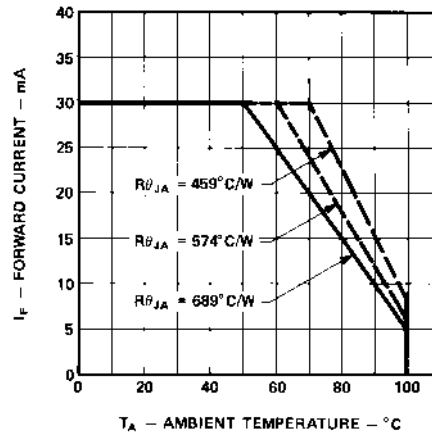

Figure 4. Maximum Forward DC Current vs. Ambient Temperature. Derating Based on T_J Max. = 110 °C.
2. Derate linearly as shown in Figure 4.